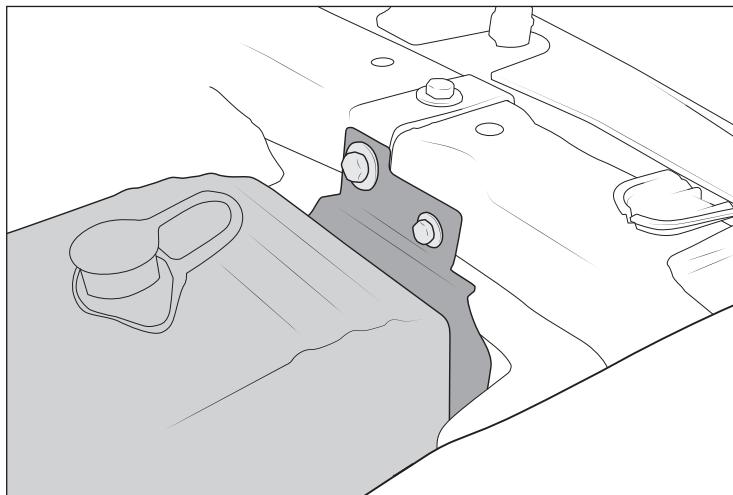

Figure 11
4. Position the controller bracket in place and loosely install the radiator support bolts removed earlier (fig. 11).